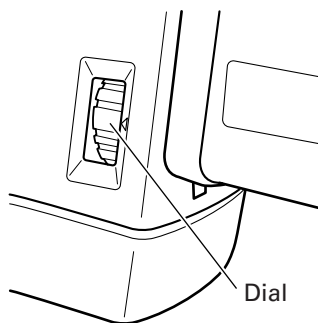

Fig. 10 (H 60MB)
6. Select the number of strikes (applicable only to H60MB) (Fig. 10)